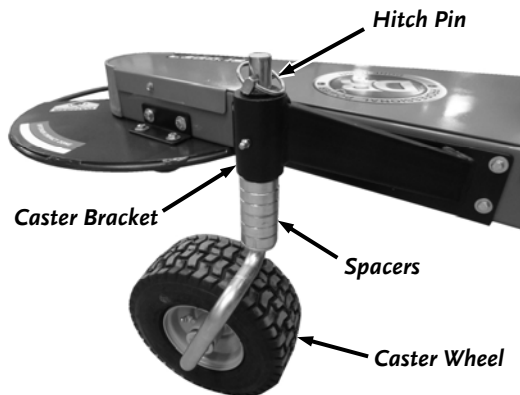

Figure 20
2. Move all Spacers of the Caster Assembly under the Caster Bracket to lift the Trimmer Head furthest from the ground (**Figure 20**).